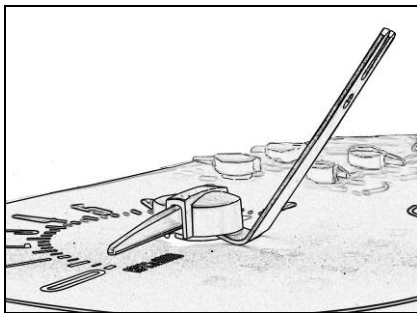

Figure 7
- A. First slow and freely rotate the pointers Clockwise (CW), then bring them back Counterclockwise (CCW) until you feel the resistance when the gauge motor rests on its internal-gear stop. For the 6 Gauge Clusters the Voltage and Oil Pressure gauges will rotate in the opposite directions. They will rotate easily CCW then need to be rotated back CW until you feel the resistance when the gauge motor rests on its internal stop.
- B. Now that the gauges are all resting at their internal stops, position the Pointer Removal Tool by sliding the end marked "Pointer Remover" under the center of the pointer cap until it rests against the center pointer hub (see figure 7).